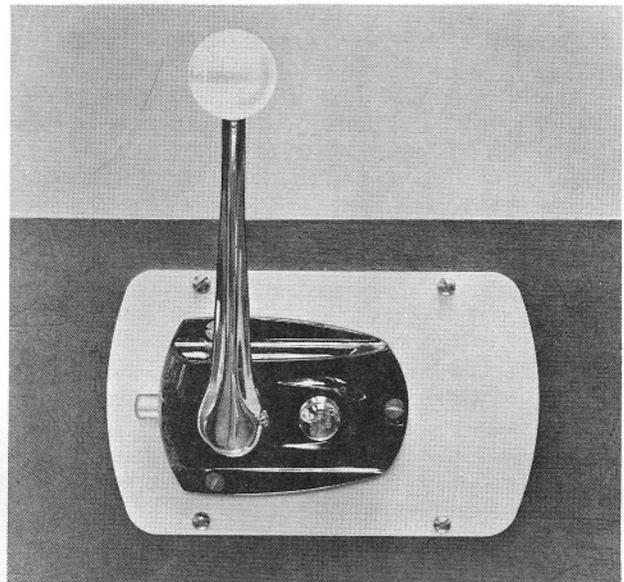

Figure 11
**PROCEDURE** When the boat is to be started while in the water, be certain that the shift control is in the neutral position. The Morse single-lever control allows operation of the throttle portion of the control unit without engaging the shift control mechanism. To use only the throttle control, place the selector lever in the neutral position and pull out the knob just behind the lever (Figure 11). The shift control mechanism is now disengaged. Where a foot control lever is employed, the forward-reverse control lever should be placed in such a position that the reverse bucket of the Jet-Drive is